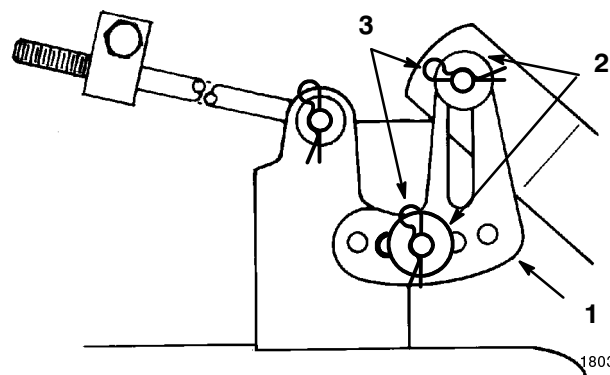

Figure 36
2. Replace the two left side mower leveling brackets (holes) with two slotted leveling brackets (Fig. 36). Secure with existing washers and hair pin cottes (Fig. 36).